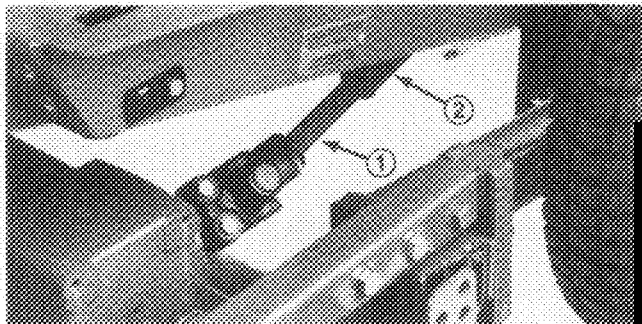

Figure 23
5. Stop engine and slide cutting unit away from traction unit and frame separating male and female section of PTO shaft (Fig. 23).